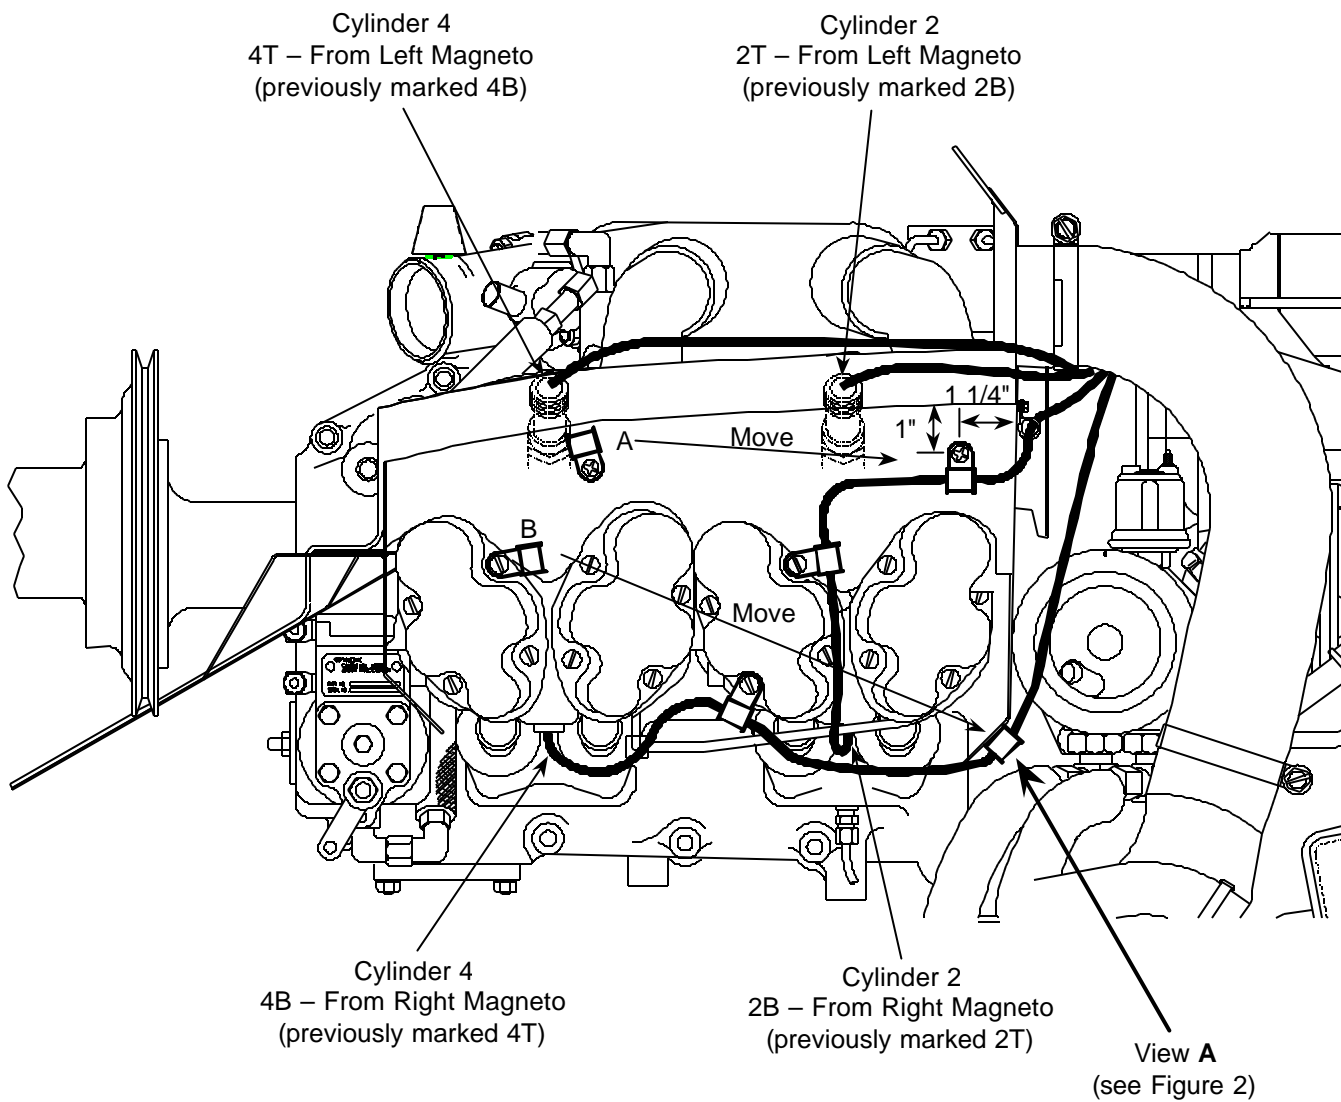
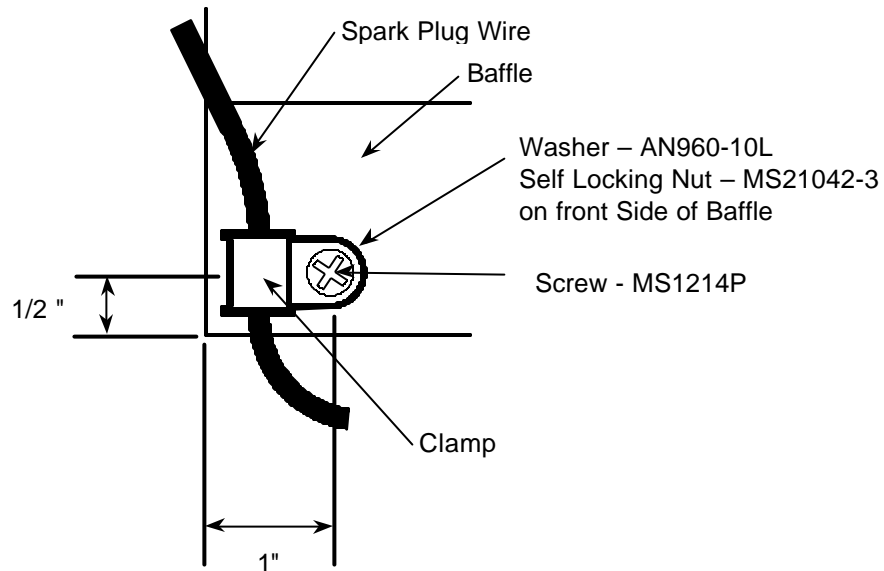

Figure 1
Figure 2
- 10.2** Drill a #10 diameter hole 1¼" forward and 1" down from the upper aft corner of the right baffle (Figure 1).
- 10.3** Remove the cable clamp from location A and move it to the new location (Figure 1). The hole at location A may be sealed with suitable hardware or left open (cooling air leakage is negligible).
- 10.4** Drill a #10 diameter hole 1" inboard and ½" up from lower left corner of the aft baffle (Figure 2).
- 10.5** Remove the cable clamp from location B and move it to the new location (Figure 1). Use suitable hardware (Figure 2).
- 10.8** Reroute the harness as shown in Figure 1 and 3.
View A from Figure 1